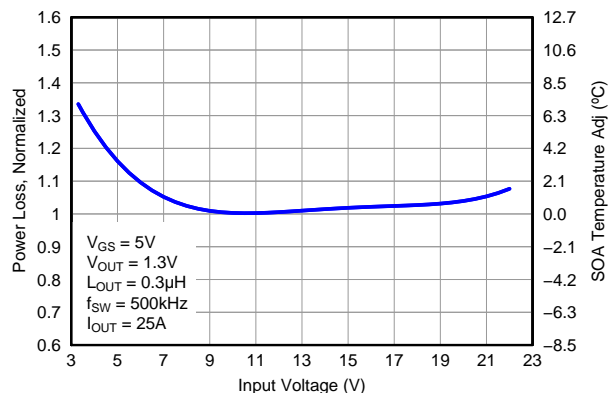

Figure 7. Normalized Power Loss vs. Input Voltage
- Normalized Power Loss for input voltage ≈ 1.05 (Figure 7)
- SOA adjustment for input voltage $\approx 1.05^\circ\text{C}$ (Figure 7)